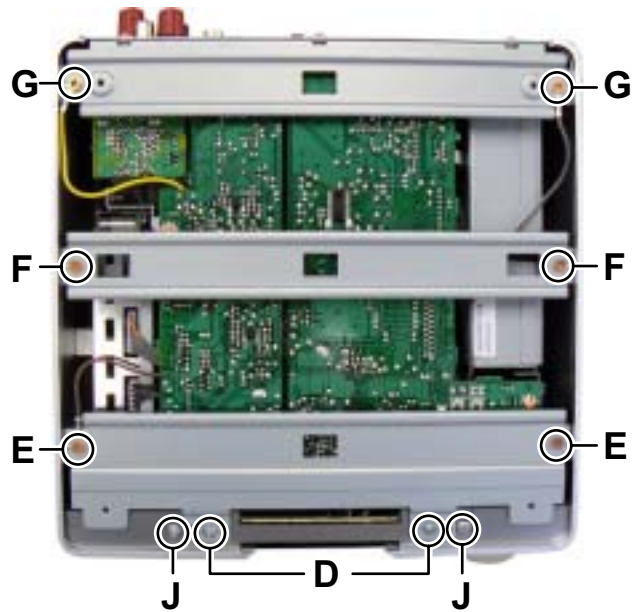

Fig.3
3.1.2 Removing the AL panel L and AL panel R (See Fig.3 to 5)
- (1) Remove the two screws **D** and two screws **E** attaching the Bridge **A**. (See Fig.3)
- (2) Remove the two screws **F** attaching the Bridge **B**. (See Fig.3)
- (3) Remove the two screws **G** and three screws **H** attaching the bridge **C**. (See Fig.3, 4)
- (4) Remove the two screws **J** attaching the AL panel L and AL panel R. (See Fig.3)